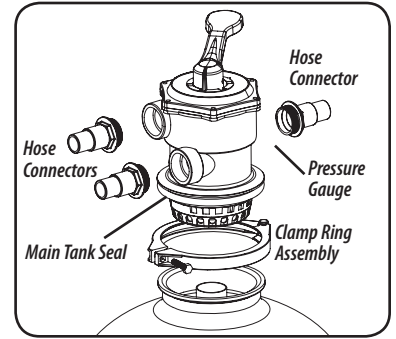

Figure 6
See Figure 6.
- c. Install all 3 threaded connectors (with o-rings) onto the valve. See Figure 6.